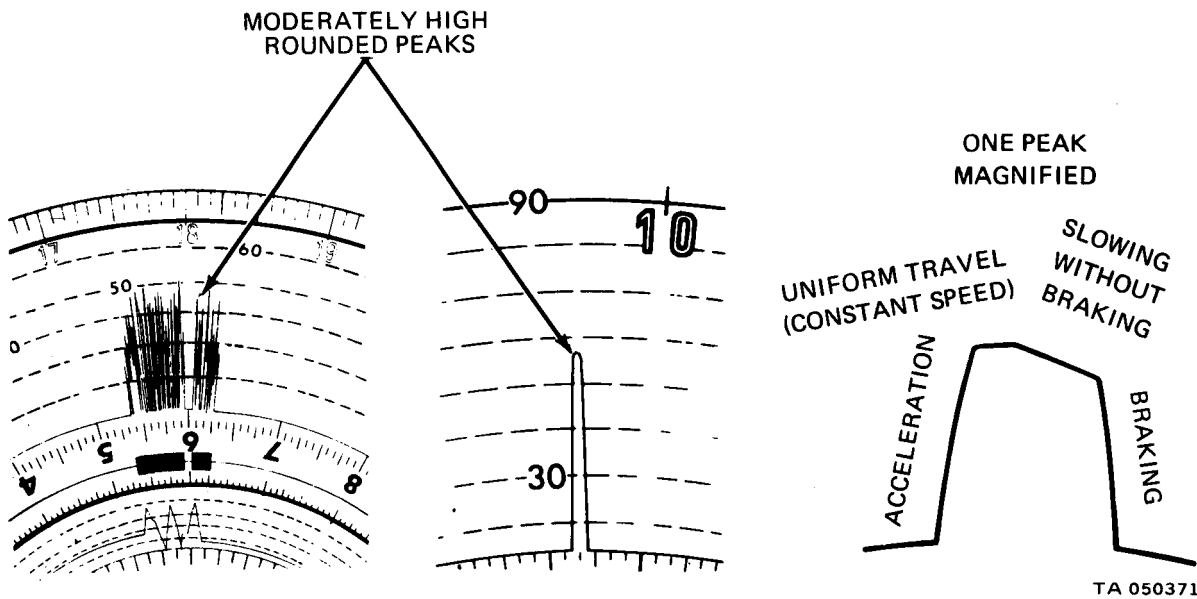

Figure 20-7. Good Driving Speed Chart
(1) General. After reading charts all the time, tests show that the driver takes charge of the economical operation of his truck. Charts show if the driver is driving the truck properly or if he needs some driving instructions. The chart can be figured out by reading the speed and engine rpm fields daily. The charts shown in this section show good and bad driving habits.
(2) Good driving speed chart. A good driving speed chart (Fig. 20-7) will show uniform driving and average speeds. The closer the highest speed reading comes to the average speed, the more uniform and economical the truck will be driven.